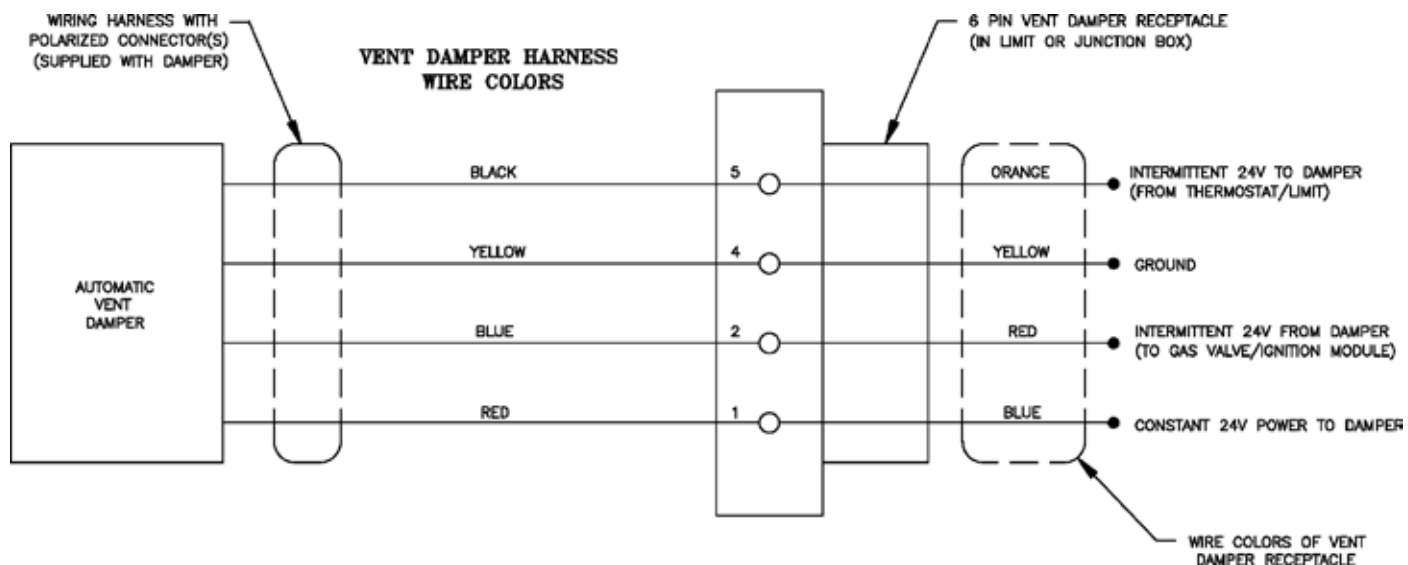

Figure 34: Vent Damper Schematic Wiring Diagram
1. Vent Damper Sequence of Operation. See Figure 34.